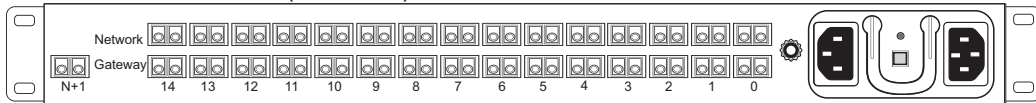

Figure 1.4 7800 N+1 Patch Panel Rear View
- If the 7800 series gateway employs N+1 protection, one to two 7800 N+1 patch panels are used to provide protection for the TDM network. See figure 1.4 on page 4.
- One 7800 N+1 patch panel. See figure 1.4 on page 4.